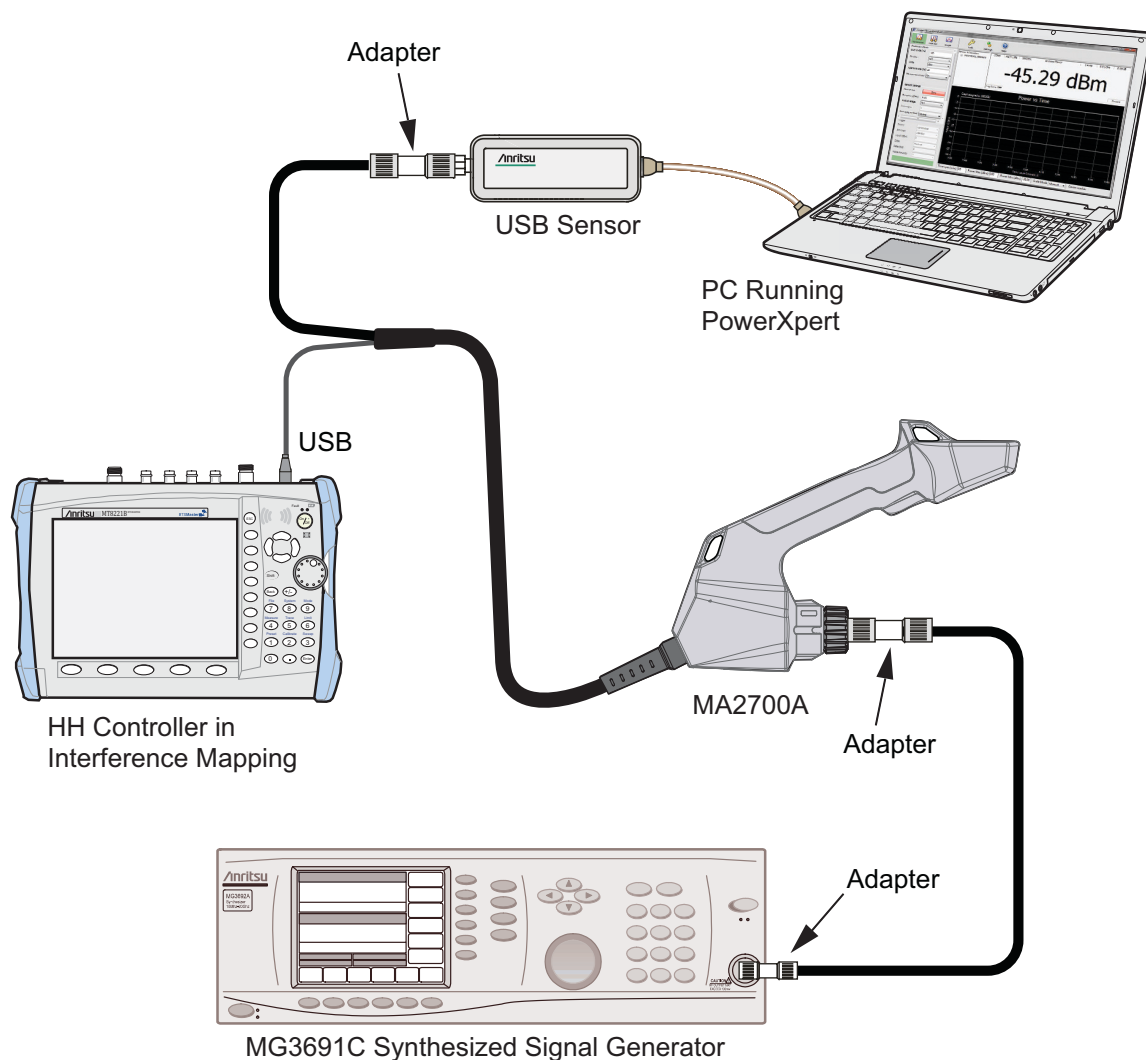

Figure 2-1. InterferenceHunter and HH Controller
3. Connect the MA2700A USB connector to the Anritsu Handheld (HH) Controller as shown in Figure 2-1. Do not connect the RF cable from the MA2700A to the HH Controller.
4. Press the **Shift** key and then the **Mode** (9) key. Use the rotary knob to highlight Interference Analysis and then press the **Enter** key to switch to Interference Analysis mode.
5. On the HH Controller, press the **Shift** key and then the **Preset** (1) key. Press the Preset submenu key to set the instrument to the factory preset state.